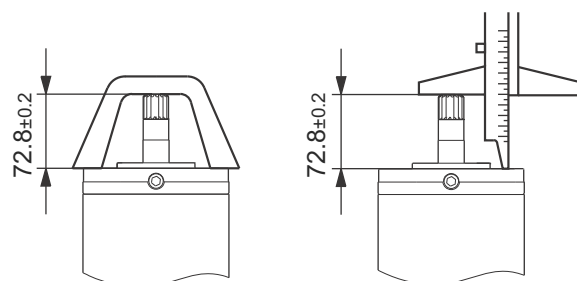

Fig. 8 Checking of shaft height
19. Fasten the clamping flange with four screws, pos. 48, and cross-tighten with the specified torque, using a torque screwdriver, pos. AB. See section 4. *Tightening torques and lubricants*.
22. Check the shaft height using a depth gauge, pos. K, or a shaft height gauge, pos. Z. The shaft height must be within 72.8 ± 0.2 mm. See fig. 8.